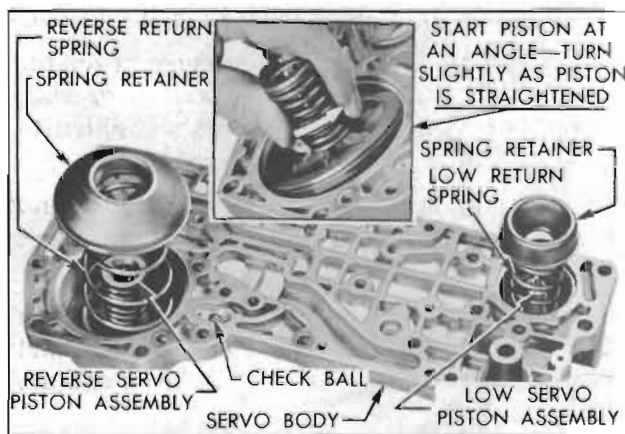

Figure 5-71—Parts Installed in Servo Body
1. Oil and install the low and reverse servo piston assemblies in servo body. To avoid curling or damaging edge of piston seal, start each piston into cylinder at an angle then turn piston slightly as it is straightened and pushed into cylinder. See Figure 5-71. Check pistons for free movement in cylinders.
2. Install the small return spring against the low servo piston. Install the large return spring with the large end against the reverse servo piston. Place spring seats on upper ends of both springs. See Figure 5-71.
3. Place check ball in reverse servo feed channel. See Figure 5-71.